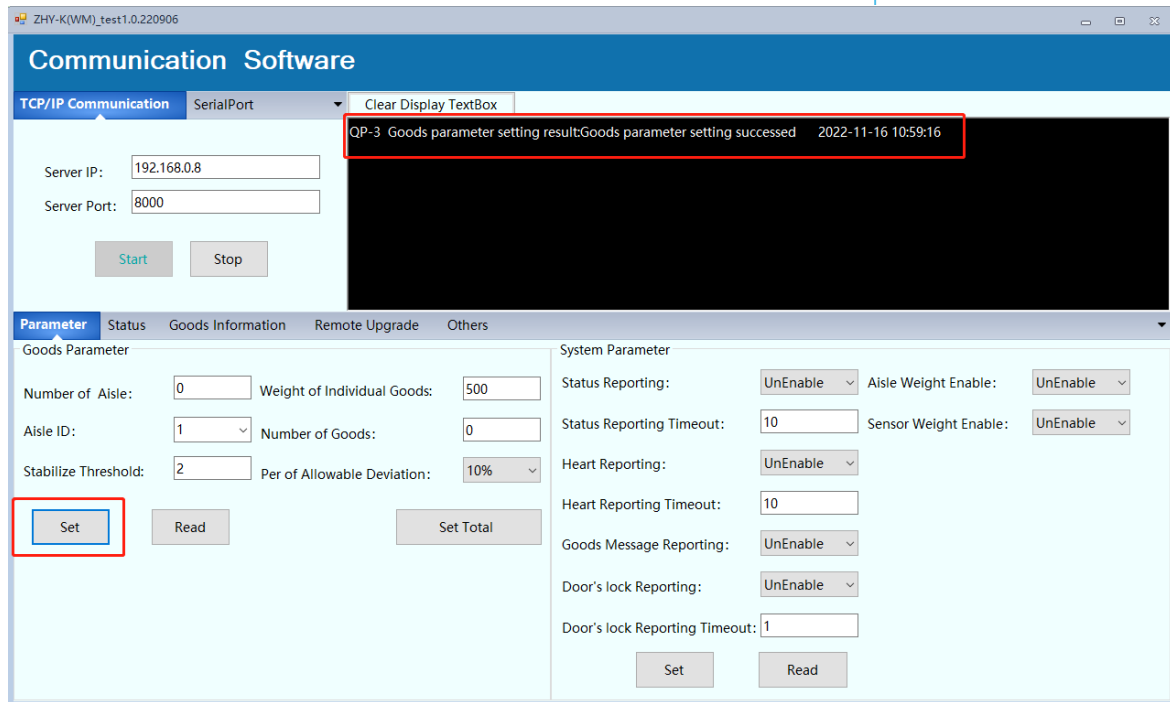

Figure 4.4 Set single aisle UI
- B) To set single aisle goods parameters, input all parameters value mentioned in the table below and click Set button as shown in Figure 4.4.